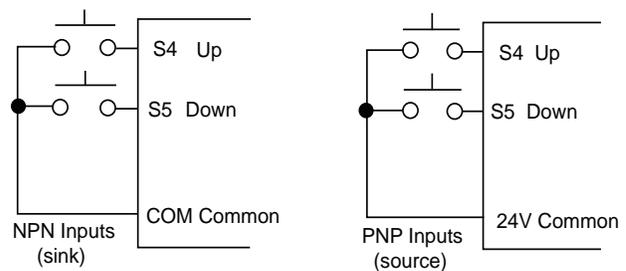

Figure 2
4. **Parameter 1-06 = 0003:** The Up/Down Digital Inputs (Digital Input Function Codes 14 and 15) set the Frequency Command. Set Parameters 5-03 to 0014 and 5-04 to 0015 and connect Up/Down pushbuttons to the drive as shown below in Figure 2.